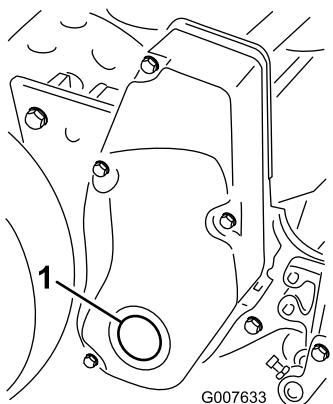

Figure 60
1. Remove the plug in the right reel drive cover (Figure 60).